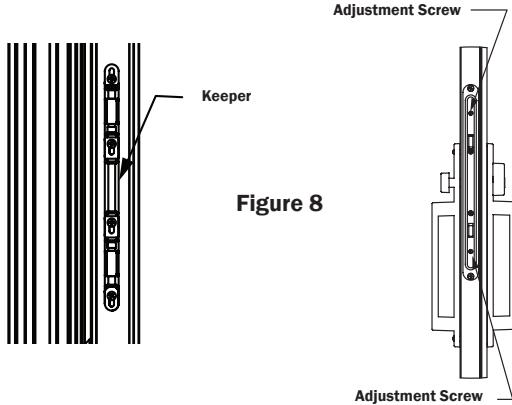

Figure 8
7. Using the dimples as a guide, install the keeper to the side jamb using the (4) #8 x 1-1/4" pan head screws. Adjust the keeper up or down until the latch engages properly (Figure 8).
8. The screws in the lock can be adjusted (Figure 8) to make the door lock tighter or looser. Each hook adjusts individually.